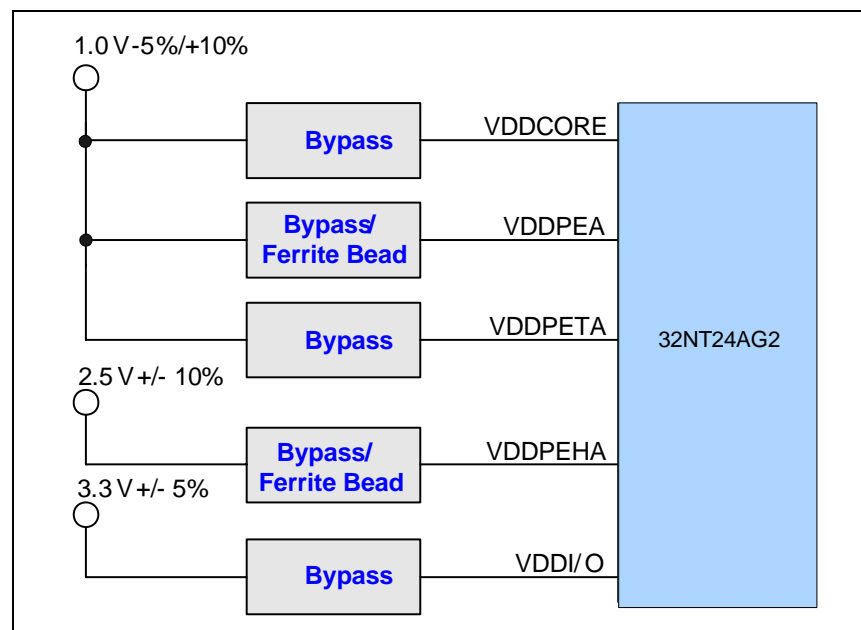

Figure 19 Board Power Supply Arrangement
**May 5, 2011:** In Figure 19, for VDDPEHA, changed to Bypass/Ferrite Bead.